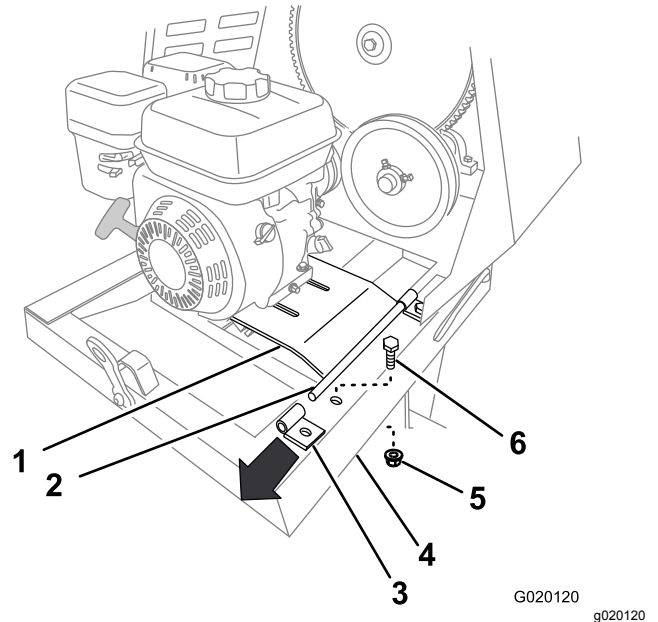

Figure 50
- Remove the bolt and nut that secure the rear bracket for the engine deck hinge to the frame of the machine (Figure 50).
- Lift up the rear edge of the engine deck and remove the hinge bracket (Figure 50).
6. Secure the rear bracket to the frame of the machine using the bolt and nut (Figure 50) removed in step 8 of Removing the Engine (page 34).